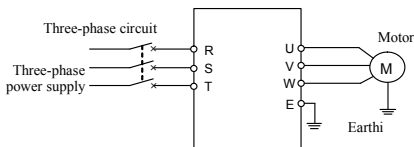

Figure 4-2 Simple Running Wiring Diagram
- ① Connect wires as per Figure 4-2;
- ② Switch on the power supply after confirming that the wires are connected correctly, and the inverter will firstly display “P-oN” and then “0”.
- ③ Confirm that the frequency setting channel is at the digit setting model ([F0.00] = 0);
- ④ It is required to set parameter [F2.00] and [F2.01] according to the rated nameplate data on the inverter's dragging motor.
- ⑤ Press  key to start the inverter and the inverter will input 0 frequency, displaying “0.0”.
- ⑥ Press Up of  key to increase set frequency, and the output frequency of the inverter will increase and the motor revolution will also increase.
- ⑦ Check if the motor run normally. In case of any abnormality, stop running the motor immediately and disconnect power supply. Do not run the motor until fault cause is found.
- ⑧ Press Down on the  key to decrease set frequency.
- ⑨ Press  key again to stop running and cut off the power supply.